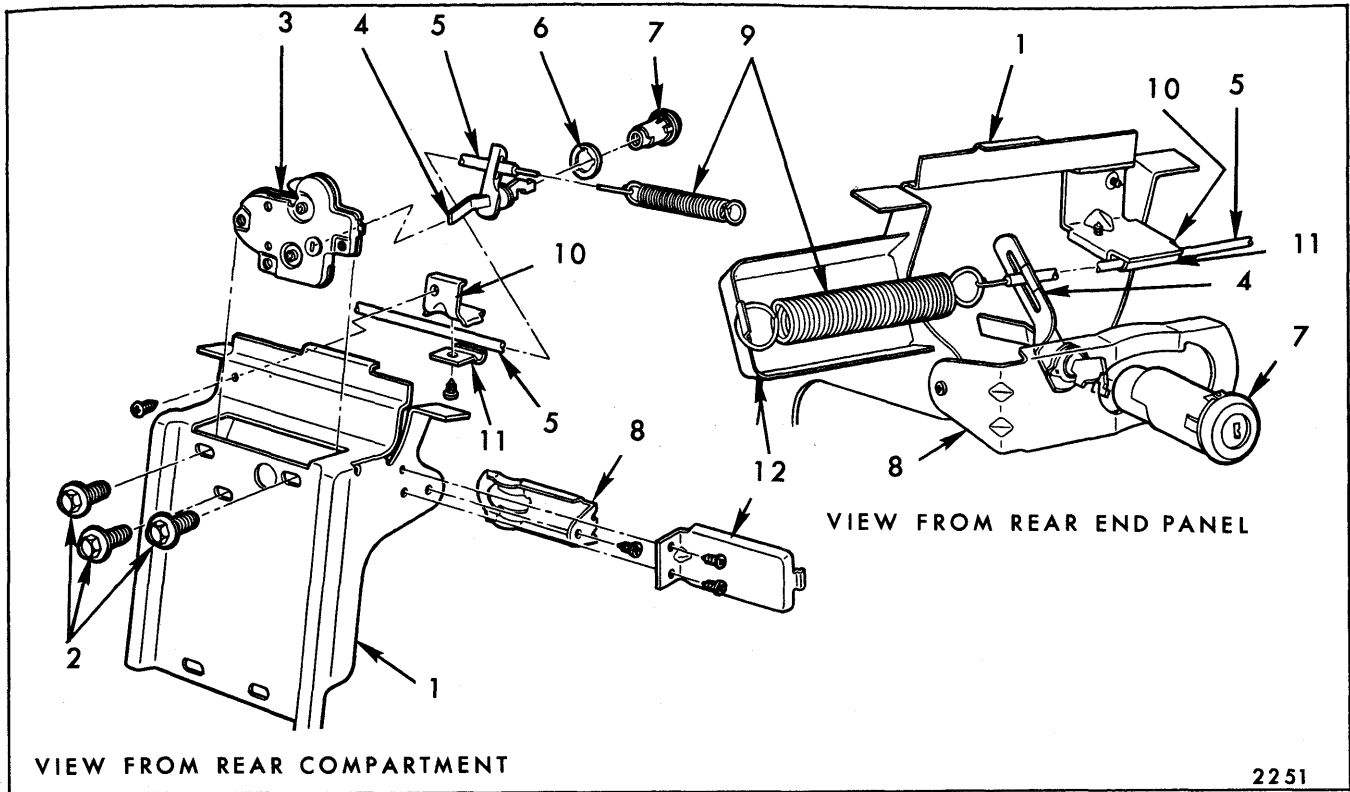

Fig. 9-24—Rear Compartment Lid Manual Release Unit
2. Remove cable support clip attaching screw and move cable toward left side of body to enable disengagement of release cable return spring retainer (See Fig. 9-24).
2. Remove screws securing right and left access hole covers to tail gate inner panel and remove covers. (See Fig. 9-24.)